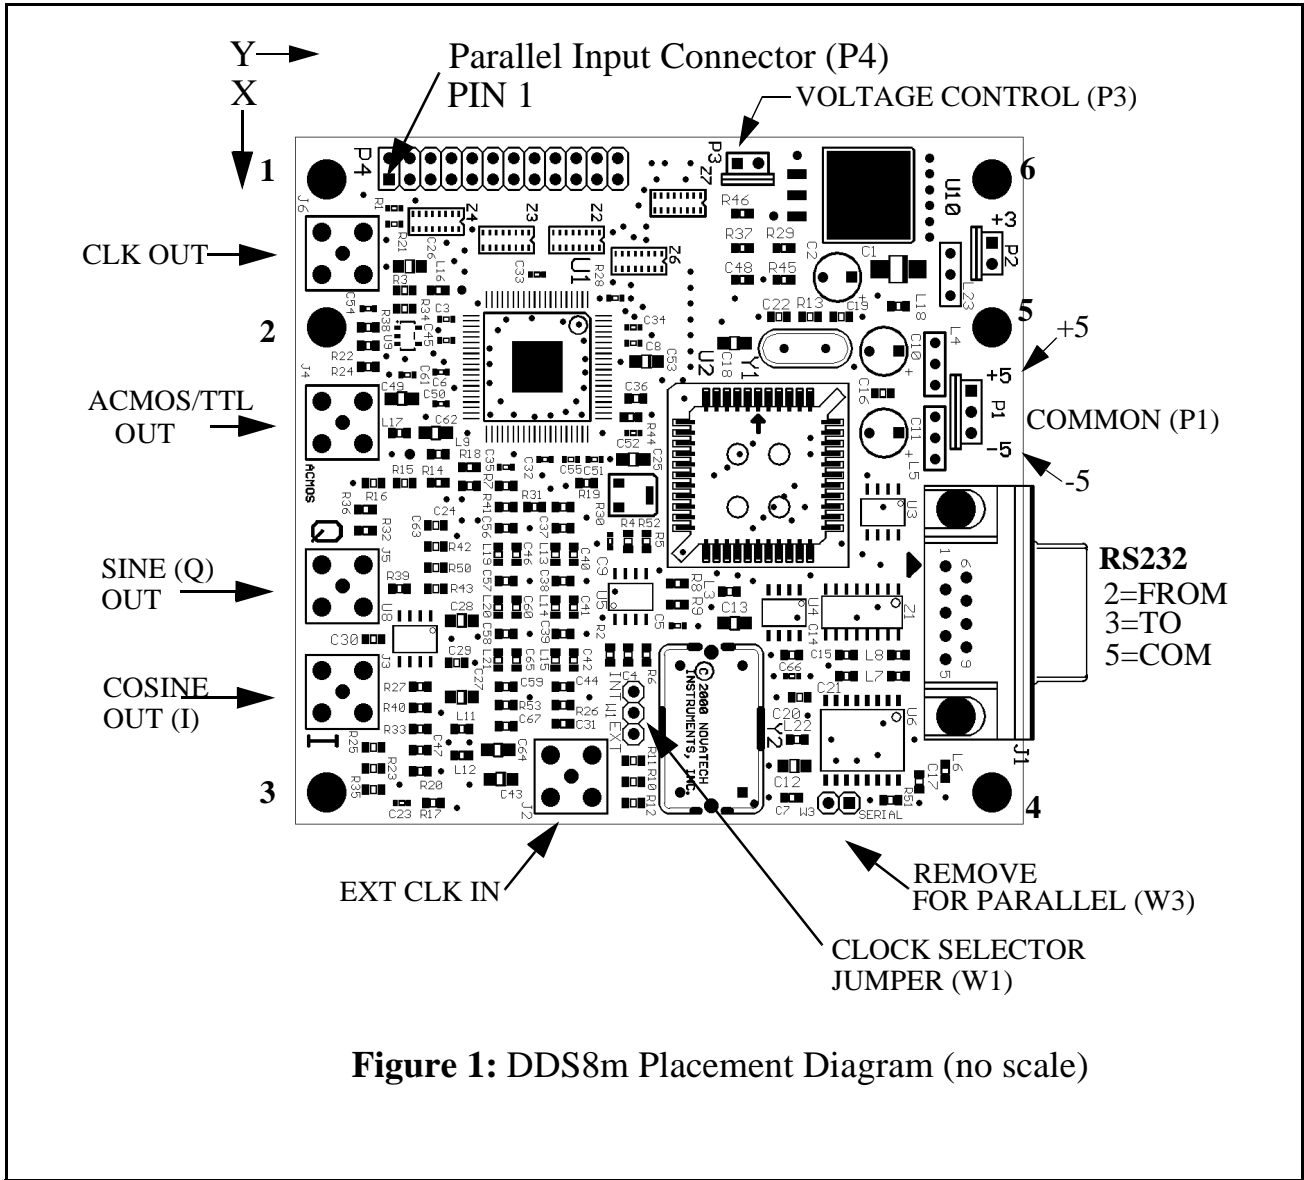

Figure 1: DDS8m Placement Diagram (no scale)
3.1 Power Connection. Figure 1, Connection Placement Diagram, shows a top view of the DDS8m module. The required power of ± 5 Volts DC is applied through a 3-pin connector (mates with Amp 640621-3). If you are using a Novatech Instruments, Inc. supplied connector, Red is +5, Blue is -5 and Black is the common return.
3.11 Internal Clock. If you plan to use the DDS8m internal clock, verify that the clock select jumper wire (W1, see Figure 1) is in the INT position and that the External Clock Input is left unconnected (the jumper is a short piece of #28 AWG bare wire).
3.12 External Clock. If you are providing your own clock source, move the clock select jumper (W1, see Figure 1) to the EXT position. Apply your clock to the External Clock Input SMB. Note that phase noise and stability are now dependent upon your supplied clock. See specifications for signal levels required and acceptable frequency range.
3.17 **Mounting.** Six mounting holes are provided on the board. These holes are electrically connected to circuit common and may be used for shield connections. Clearance is provided for up to 3mm diameter screws. Please allow at least 3 mm clearance on the bottom side when mounting to a conductive chassis or case. Refer to Table 3 and Figure 1 for locations.
4.2 **Serial Operation.** After the DDS8m has been installed in the customer application system, all that is required for operation is to send the appropriate RS232 commands per Table 2. W3 (see Figure 1) must be installed before power-up for the serial mode to be recognized.